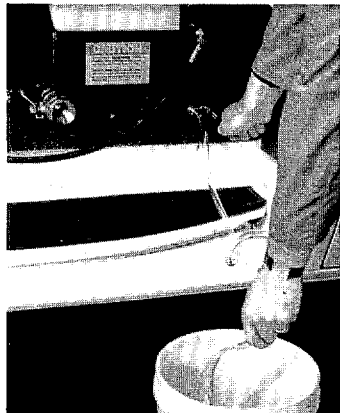

Fig. 1
2. Drain chemical mix tank. (fig. 1)